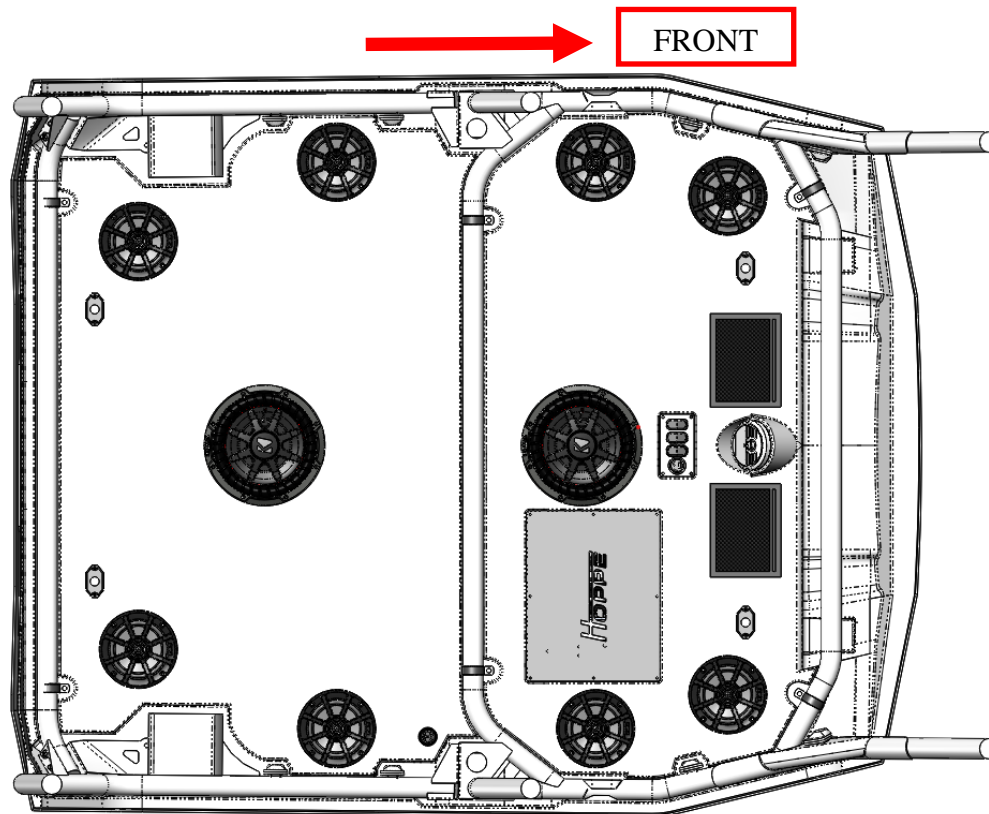

Figure 7: Install the top on the cage.
4. Using a few assistants, set the *Audio Shade* off-road top on the cage. The top is contoured such that the cage fits inside the grooves on the top. **Note: The top weighs up to 150 lbs. depending on your configuration. Since you will have to lift and reach, it is helpful to have at least 4 people for this step. See Figure 7.**